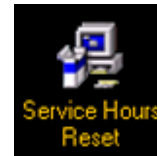

Fig 8.
- 4 Select 'Loadall 2007+' from the drop down list ⇒ Fig 6. \(M2-11\) and then start the setup tool running by clicking on the **Service Hours Reset** icon. ⇒ Fig 8. \(M2-11\)